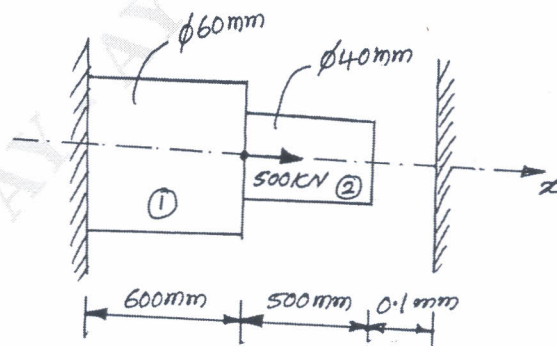

Fig Q3(b)
- b. A stepped bar as shown in Fig Q3(b), using penalty method find